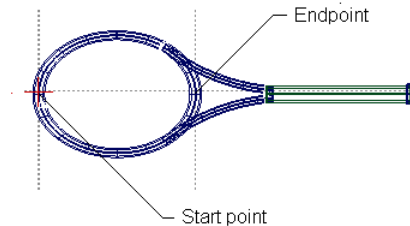

Figure 3-83 Start point and endpoint of the line
2. Choose the **Line** tool from the **Keypoint Curve Toolbox** and click on the torus to specify the start point and endpoint of the line, as shown in Figure 3-83.